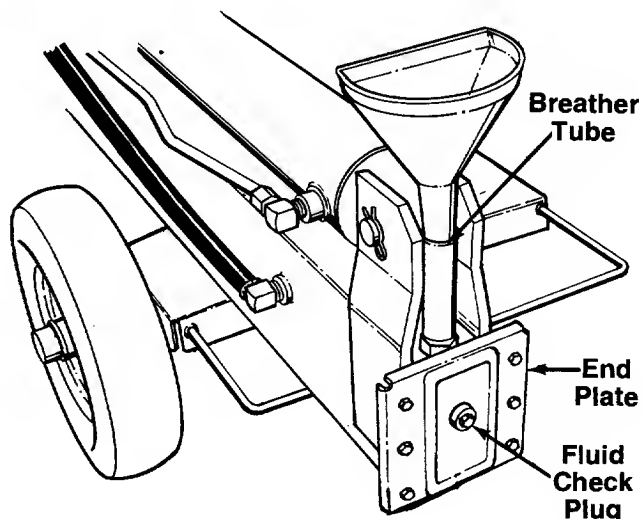

FIGURE 8.
- a. With the log splitter on a level surface, remove the cap from the breather tube. See figure 8. Remove the fluid check plug from the end plate.
2. Remove the fluid check plug. See figure 8. If fluid starts to come out of the hole, fluid level is correct. If it does not, fill reservoir as instructed in step 4 of the previous section.